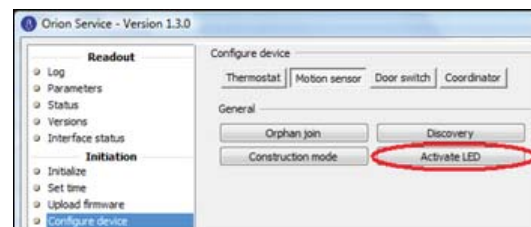

Figure 70
7. Go to the **Configure device** section in the left part of the Orion Service software window and choose the **Motion sensor** tab. Make sure that the service cable is plugged into the motion sensor and click the **Activate LED** button; see *Figure 70*.
10. Choose the **Configure device** section in the left part of the Orion Service software window. Make sure that the service cable is plugged into the motion sensor and click the **Activate LED** button; see Figure 70.
12. Test the range of the motion sensor. First, make sure that the door is open as this will ensure that the motion sensor is not deactivated by the thermostat. Choose the **Configure device** section in the left part of the Orion Service software window. Make sure that the service cable is plugged into the motion sensor and click the **Activate LED** button; see Figure 70. Walk around the room; the LED of the motion sensor will light up as motion is detected.